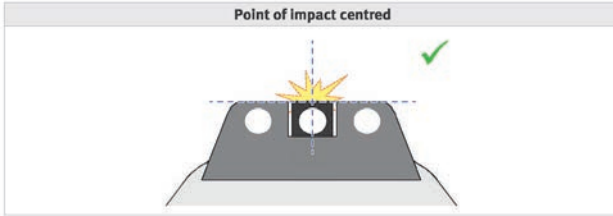
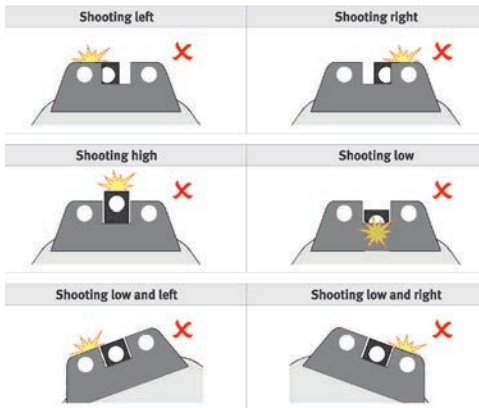

Figure 8 – Correct sight alignment (“Dead On” or “Cover Up” hold)
Figure 9 – Common sight alignment errors
The VP is equipped with a three dot sighting system, similar to those first introduced by HK on the P7 series pistol in the 1970s. The sights are adjustable for both windage (by drifting) and elevation (by replacement of the front sight). Sights are installed and aligned by HK technicians at the factory. Only a HK certified armorer should adjust or replace the VP sights. Figure 8 shows correct sight alignment (generally for the VP series it is a “dead on” or “cover up” hold). Figure 9 shows common sight errors.
1. Acquire the proper sight alignment and sight picture (see Figure 8).